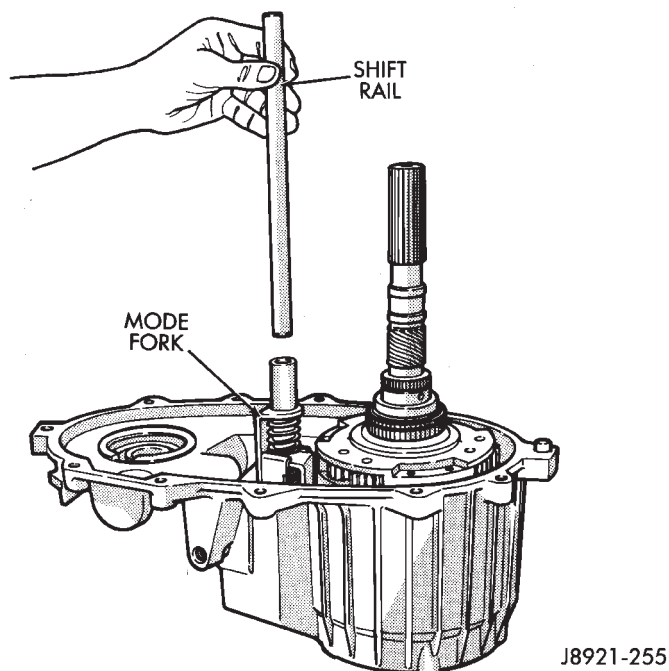
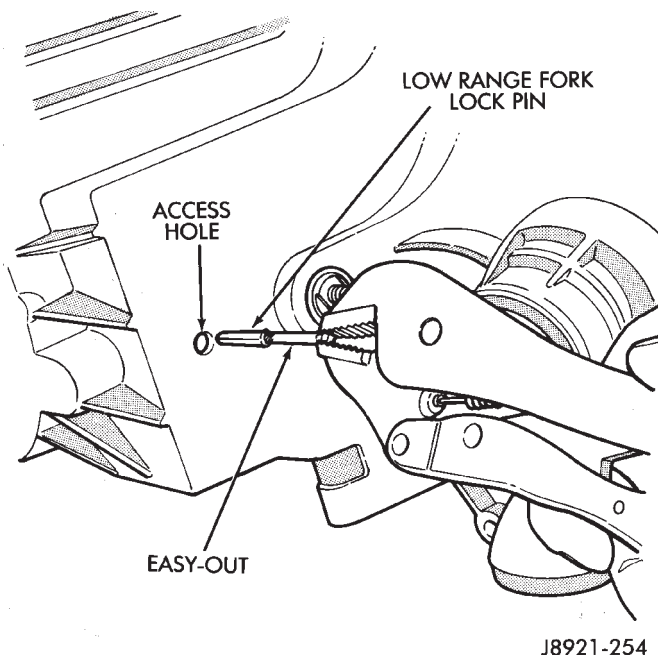
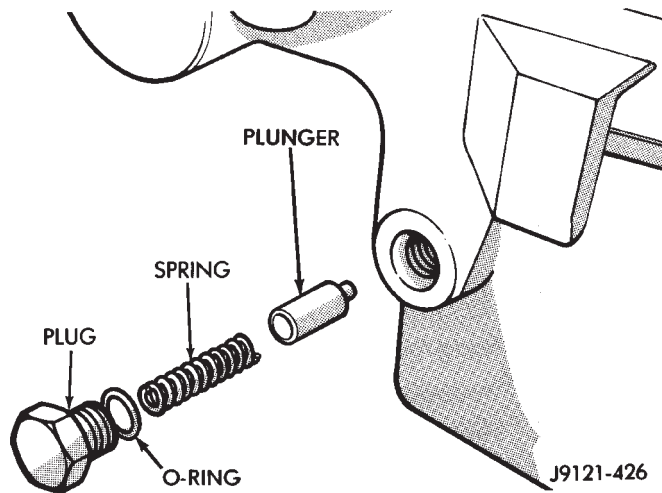

Fig. 65 Installing Shift Rail
Fig. 66 Installing Low Range Fork Lockpin
Fig. 67 Installing Detent Pin, Spring And Plug
(42) Rotate mode fork pin into shift sector slot.
(43) Install shift rail (Fig. 65). **Be sure rail is seated in both shift forks.**
(44) Rotate shift sector to align lockpin hole in low range fork with access hole in case.
(45) Insert an easy-out in range fork lockpin to hold it securely for installation (Fig. 66). **Lockpin is slightly tapered on one end. Insert tapered end into fork and rail.**
(46) Insert lockpin through access hole and into shift fork (Fig. 66). Then remove easy-out and seat pin with pin punch.
- (47) Install plug in lockpin access hole.
(48) Install transfer case shift lever and attaching nut. Tighten nut to 30 N•m (22 ft. lbs.) torque.
(49) Install detent plunger, detent spring and detent plug in the case (Fig. 67).